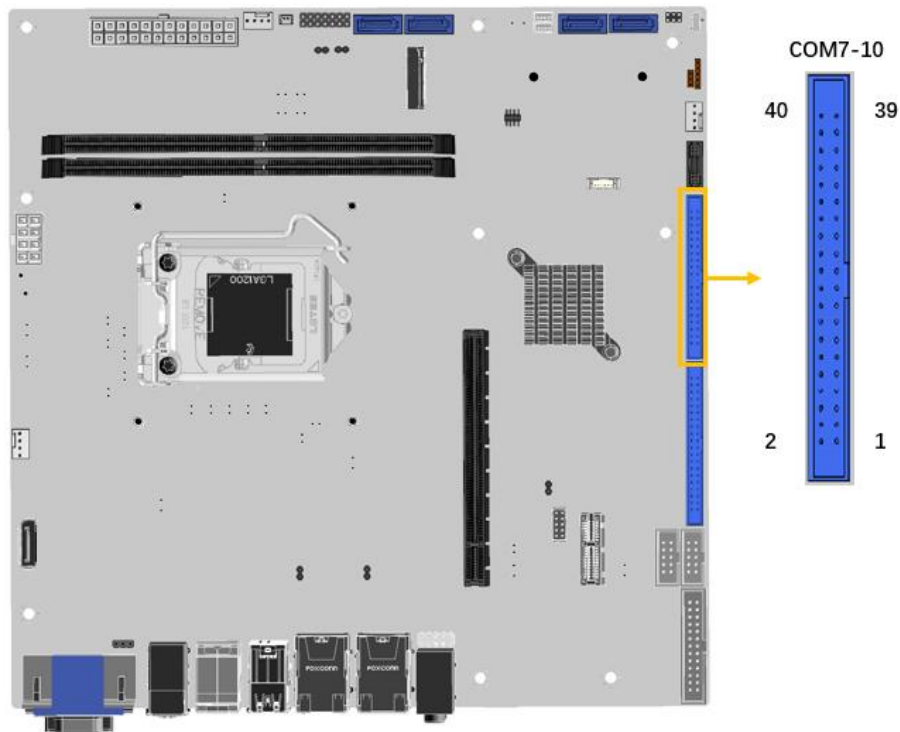

Figure 3-18: RS-232 Connector Location
- CN Location:** See Figure 3-18